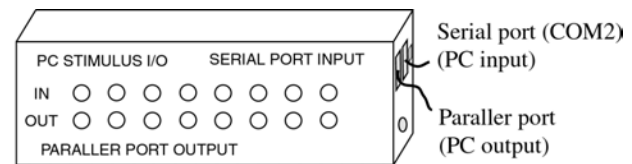

Figure 17 PC Stimulus input/output –box.
- Connect serial port (COM 2) and parallel port to PC Stimulus I/O –box (Figure 17)